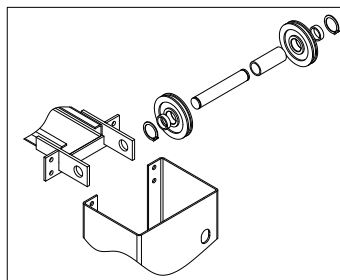

Fig.34
3. Connect crossbeams to both columns to both columns to fig.34. (Notice that the limited switched is inside the main column)